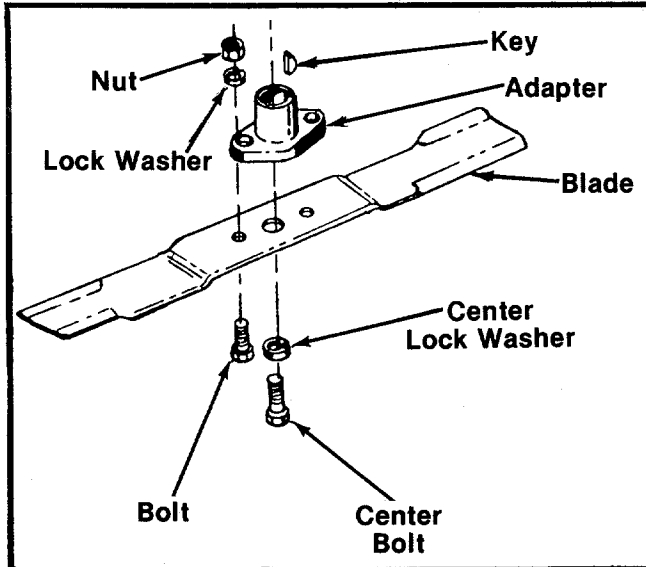

FIGURE 19.
1. Remove the large bolt and lock washer which holds the blade and adapter to the engine crankshaft. See figure 19.